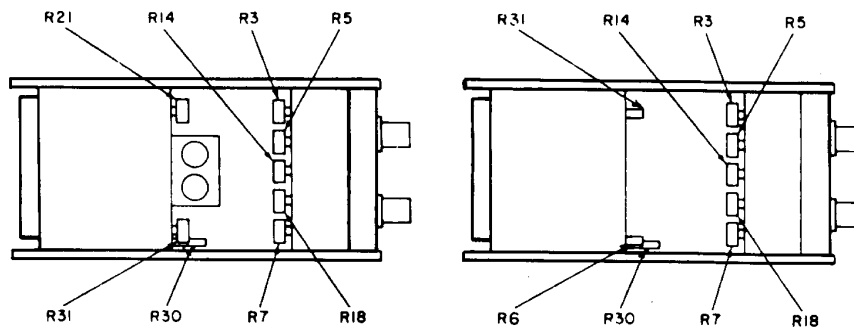

Figure 3. Adjustment locations - top view.
R18 affects all ranges and R30 affects ranges above 0.15 V. Because of interaction, adjustment of R18 and R30 (fig. 3) may have to be repeated until TI voltage indications are within specified limits.
- (1) Adjust R21 (fig. 3) fully ccw, then adjust approximately 20 degrees cw (only SN 0982A22438 and below) (R).
- (2) Adjust **ZERO ADJ** (rear of TI) for 0 meter deflection (may not appear on TI below SN 550).
- (3) Adjust **ZERO ADJ** to return meter pointer halfway back to 0. For SN 0982A22439 and above, adjust R6 (fig. 3) until TI meter indicates 0 with **FUNCTION** switch in both **+DCV** and **-DCV** positions.
- (4) Adjust calibrator output to 0.0150 V.
- (5) Adjust R18 (fig. 3) for 0.015 V indication on TI (R).
- (1) Adjust R31 (fig. 3) for 0 indication on TI (R).
- (2) Fine adjust **AC ZERO** control for **0** indication on TI.
- (3) Adjust calibrator for a 0.5 V indication.
- (4) Adjust R3 (fig. 3) for a 0.5 V indication on TI (R).